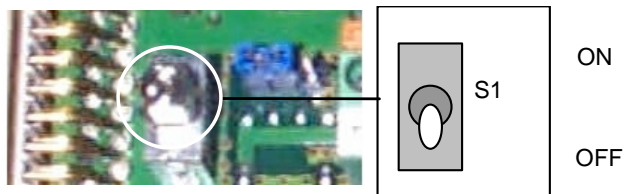

Figure 6 - Power Switch ON/OFF Positions
Switch ON the C-BOX 4X0 power switch (see Figure 6).
The power switch (see Figure 6) switches the power supply ON or OFF for both the C-BOX 4X0 and the connected scanner.
- 2) Verify that the C-BOX 4X0 power switch is off (see Figure 6).